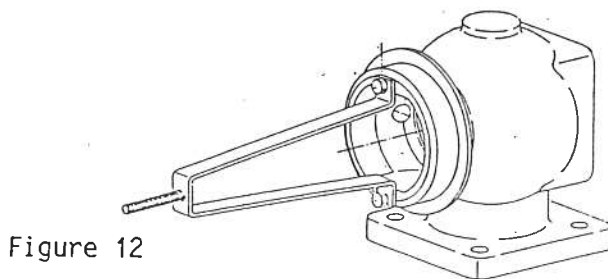

Figure 12
- By cleaning the filter housing, extra attention should be paid to the contact surfaces of the gasket (Figure 12).